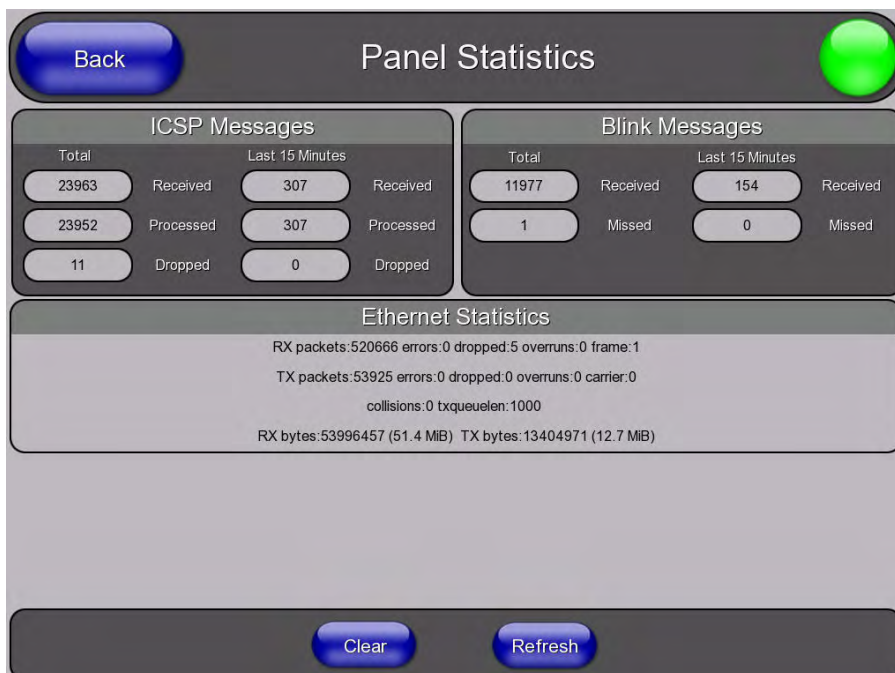

FIG. 78 Protected Setup (Tools) - Panel Statistics Page
- **Panel Statistics** - Press to access the *Panel Statistics* page (FIG. 78 on page 83)
Select **Panel Statistics** from the *Tools* slider (see FIG. 76) to access the *Panel Statistics Page* (FIG. 78):